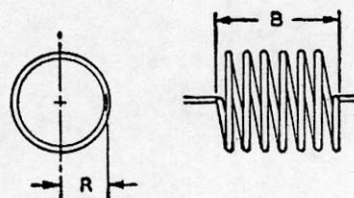

Fig. 37
When the required tank-circuit capacitance is known, the tank inductance required for resonance at the desired frequency can be determined by substitution of the value of  $C$  in Equation (1). Approximate winding data for single-layer coils, such as that shown in Fig. 37, suitable for use in amateur transmitters can then be obtained from the following formula: